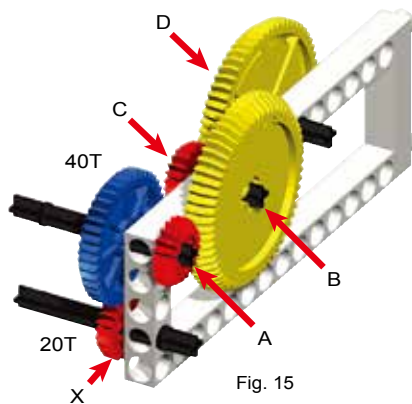

Fig. 15
1. On the previous structure, add an additional 40T blue gear, a 20T red gear, and a medium axle to assemble the structure as shown in Fig. 15.
Fig. 15 shows the gears meshing as bevel gears at right angles. The calculations of gear ratio and the principles of rotary directions are the same as with spur gears.